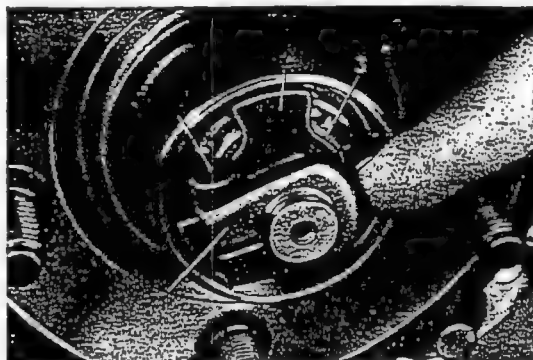

Fig. 33-5/9
27. Make an additional check by turning the ground washer between the inner race of the outer annular taper roller bearing and the clamping nut (Fig. 33-5/9, for checking instructions see Job No. 33-0).